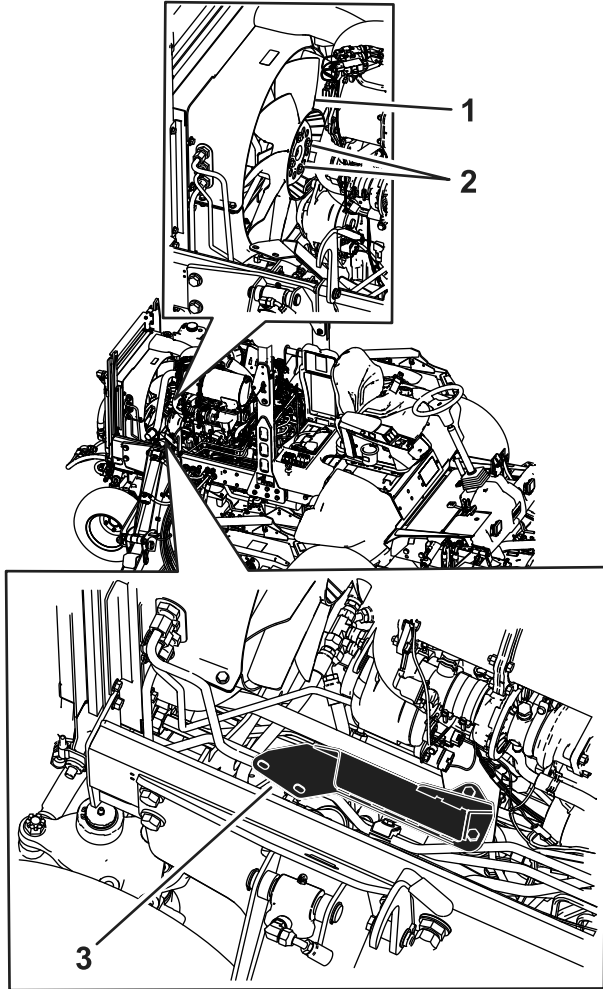

Figure 38
1. Remove the exhaust pipe, muffler bracket, and engine fan (Figure 38).
7. Install the engine fan, muffler bracket, and exhaust pipe (Figure 38).